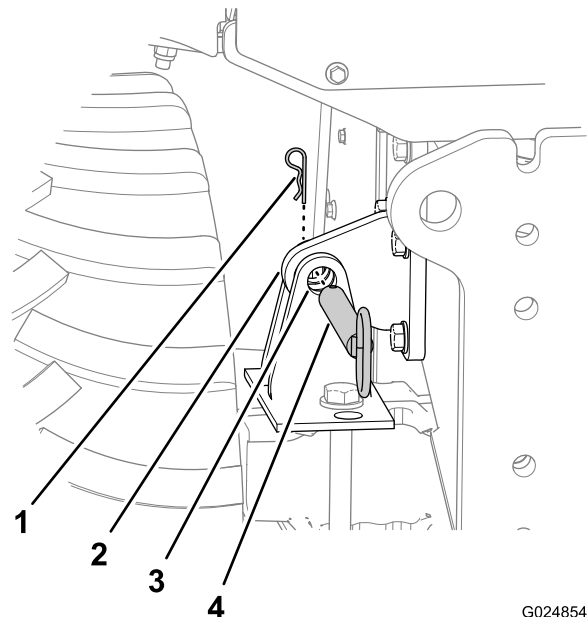

Figure 44
1. Remove the hairpin that secures the tilt-lockout pin to the chassis-lockout bracket (Figure 44).
2. Remove the tilt-lockout pin from the holes in the chassis-lockout bracket and the axle-lockout bracket (Figure 44).
1. Use the tilt switch to align the hole in the chassis-lockout bracket with the holes in the axle-lockout bracket (Figure 44).
4. Fully insert the tilt-lockout pin through the horizontal holes in the chassis-lockout bracket and axle-lockout bracket (Figure 44).
5. Secure the tilt-lockout pin to the axle-lockout bracket with the hairpin (Figure 44).